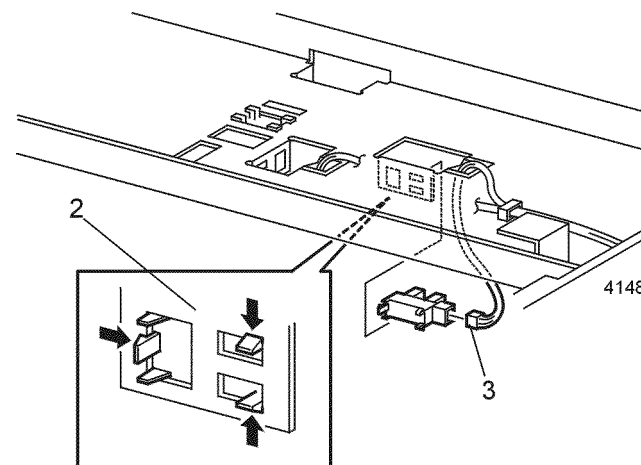

Figure 1 Paper Height Sensor
2. Hold the Nudger Assembly down as you release the three locking tabs that secure the Paper Height Sensor (Figure 1).
3. Disconnect P/J611 from the sensor (Figure 1).